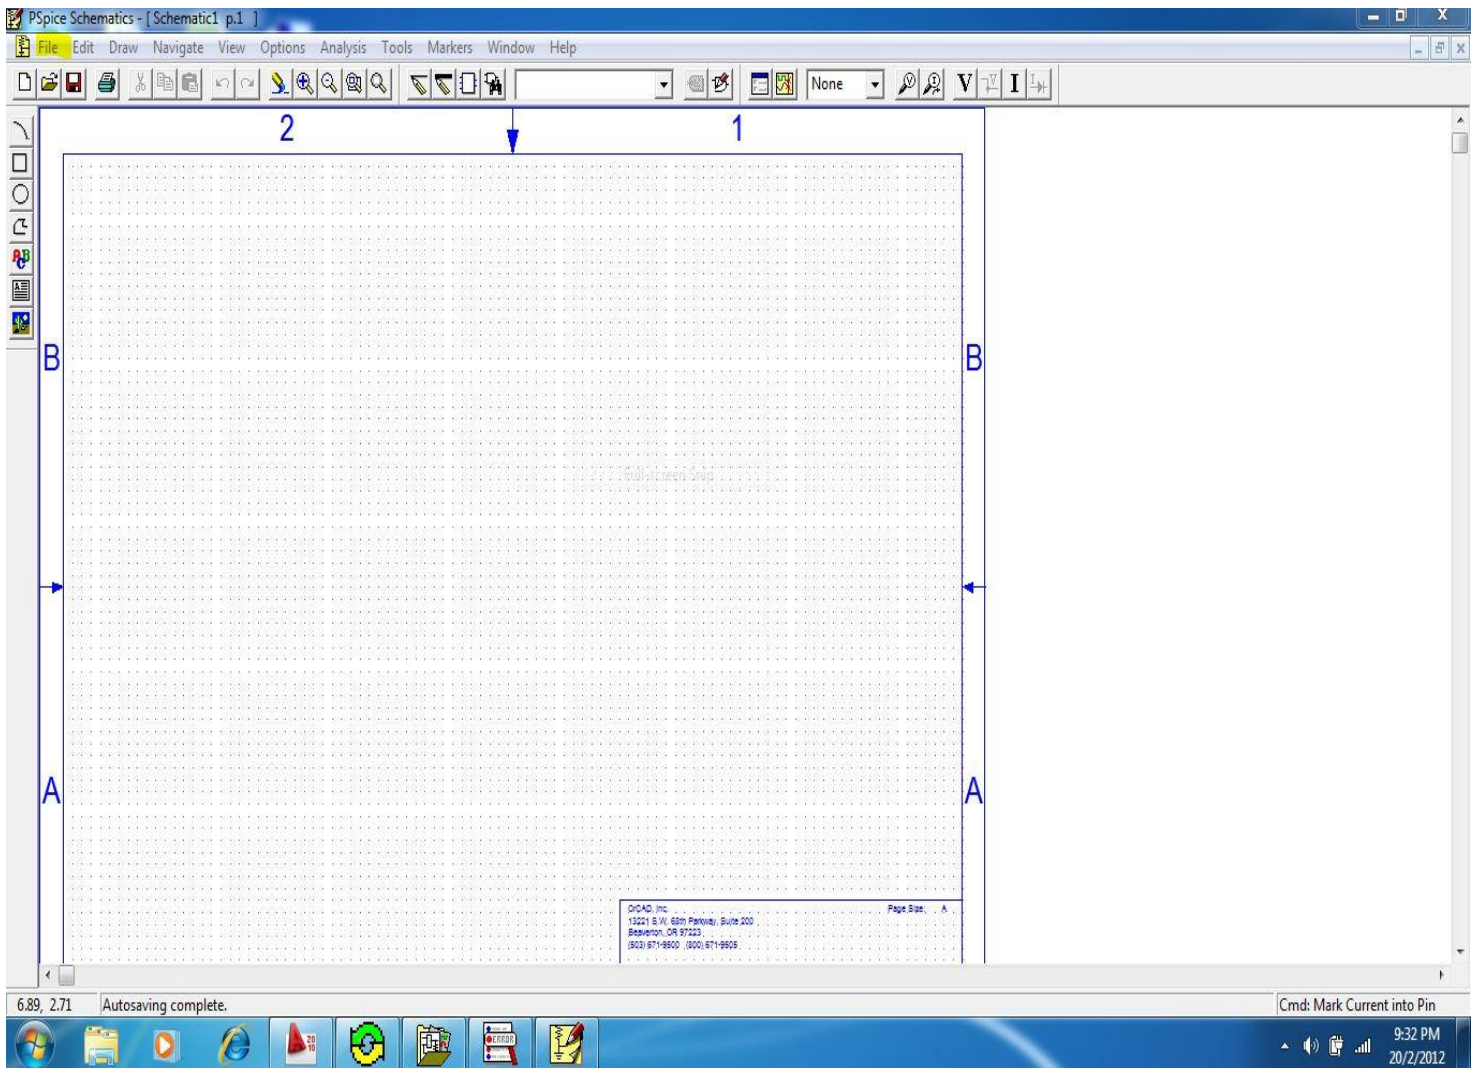

Figure-1
4. From the above Figure-1 we can see the menu bar, In menu bar you can see **file** is highlighted by yellow color, **File** and **Edit** bars in pspice have same as other general software options in it, a picture of the software working screen can be seen above.